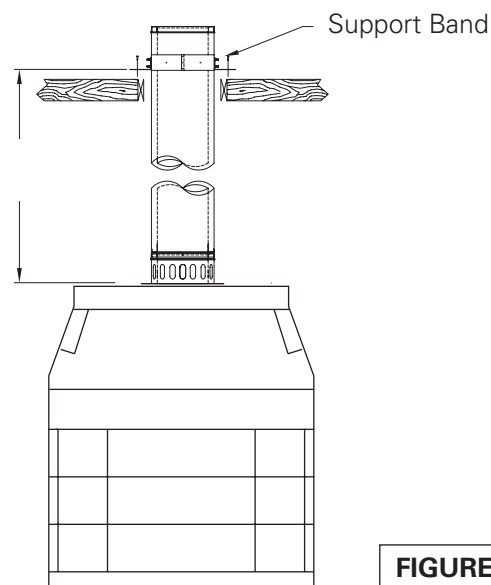

FIGURE 51
6. Angle Support and Support Band: Install an Support Band if total chimney height is greater than 50 feet, or if the fireplace manufacturer requires it. If additional support is needed, install one or more Supports which will support 30 feet of chimney. **(Figure 51)**